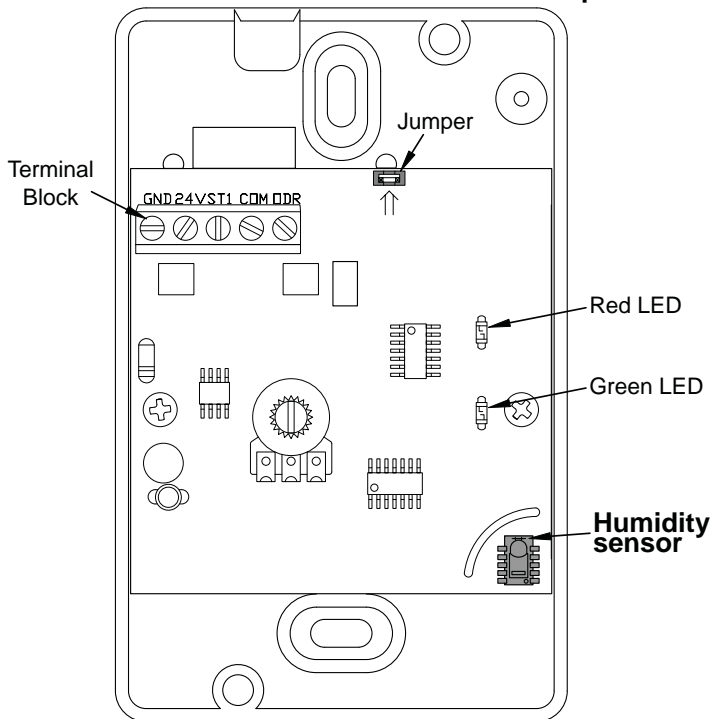
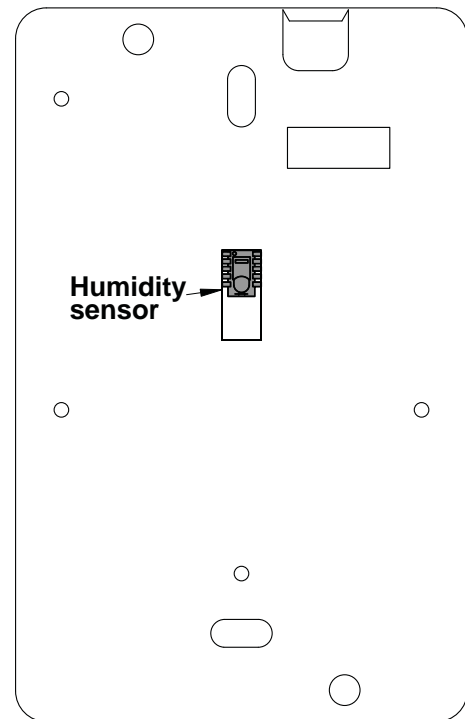

Fig. 1a Wall Mount Humidistat
Fig. 1b Back View of a Duct Mount Humidistat
1.1 The humidity sensor is not located at the same place in a wall mount or in a duct mount humidistat and therefore the two models of humidistats are not interchangeable. Please see Fig.1a and Fig.1b.
Three holes have to be drilled in the duct, two for screws (approx. 1/8” dia.) and one for sensing (approx. 5/8” dia.). The humidity sensor is located in the rectangular opening visible at the back of the humidistat baseplate. This location will prevent potential dust accumulation on the sensor. Please see Fig. 1b.